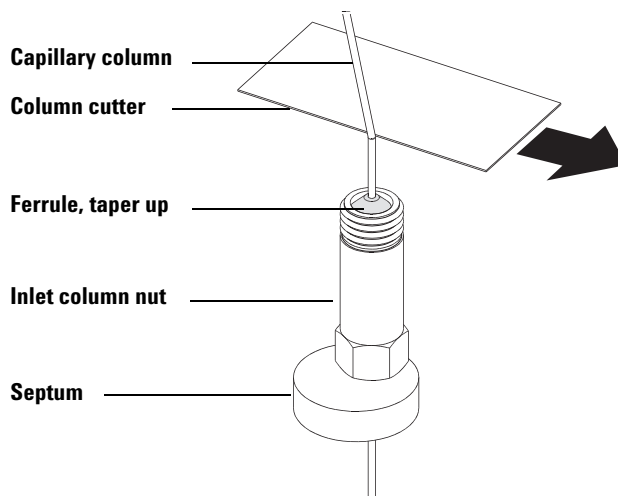

Figure 3 Preparing a capillary column for installation
- 2 Wearing clean gloves, press the column through the septum (this takes a bit of pressure). Then slide the column nut and conditioned ferrule onto the free end of the column. (See Figure 3.) The tapered end of the ferrule should point away from the column nut.